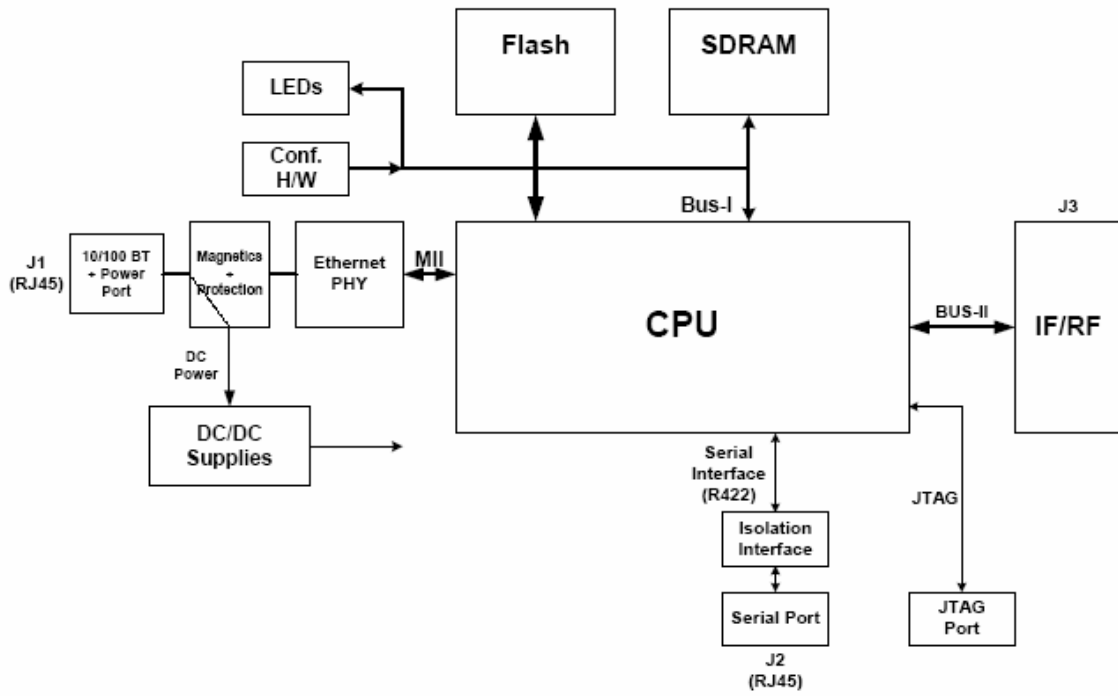

Figure 1-3. ODU Block Diagram
- **Outdoor Unit (ODU):** An enclosed aluminum frame with a front sealed plastic cover, containing an integrated transceiver with an antenna, RF module, modem and standard interfaces. The ODU stores all the configuration parameters of the WinLink 1000 system. *Figure 1-3* shows the ODU block diagram.